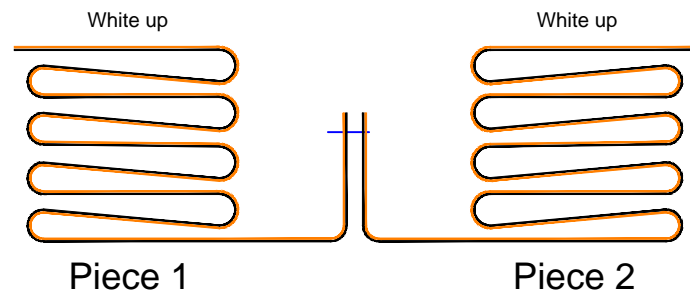

FIGURE 1
1. ONCE FIRST AND SECOND PANEL ARE UNROLLED, BRING THE BOTTOM OF BOTH PIECES TOGETHER BLACK TO BLACK, (FIGURE1)